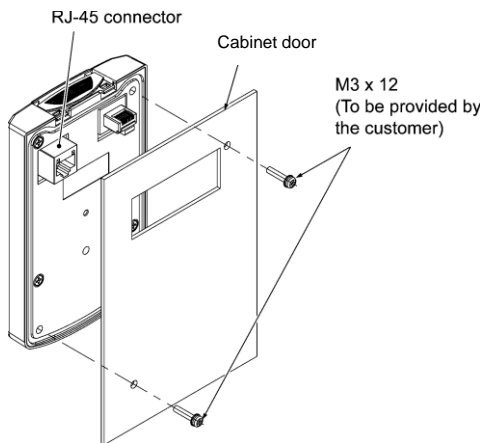

Figure 2.3-4 Mounting the Keypad
- (1) Make a cutout in the cabinet door (in which the keypad is to be mounted) as shown in [ 3 ] External dimensions of the keypad.
- (2) Mount the keypad on the cabinet door as shown in Figure 2.3-4.